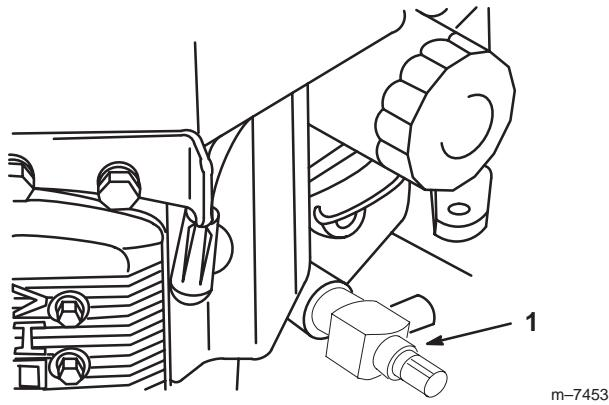

Figure 37
5. Place a pan under the oil drain hole in the engine frame (Fig. 37).
6. Open the oil drain (Fig. 37).